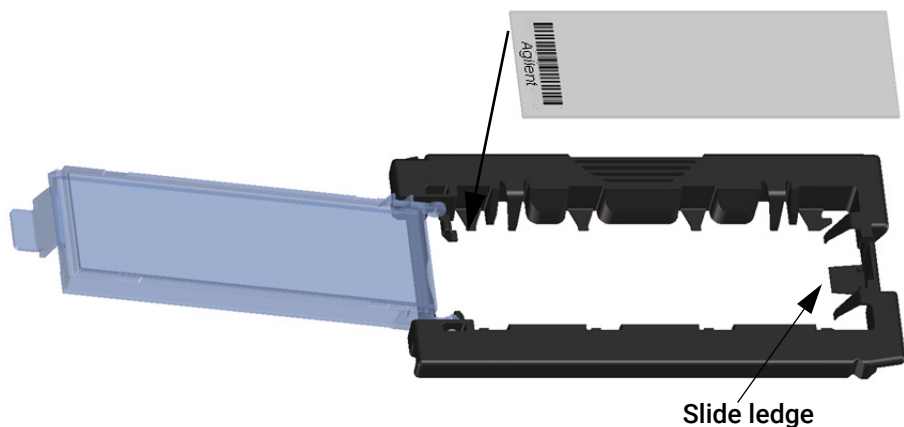

Figure 17. Inserting slide into the slide holder
- a Hold the slide at the barcode end and position the slide over the open slide holder. Make sure that the active microarray surface faces up with the barcode on the left, as shown in **Figure 17**.
- b Carefully place the end of the slide without the barcode label onto the slide ledge. See **Figure 17**.